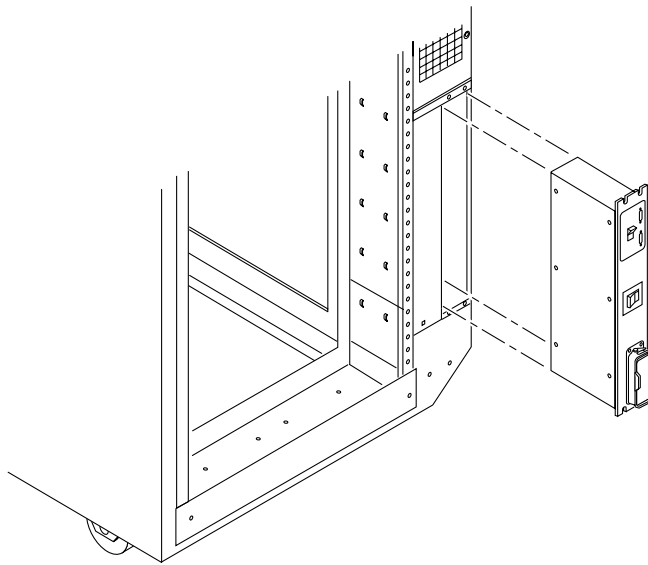

FIGURE 4-5 Removing and Replacing the Power Sequencer
5. **Remove the four screws that secure the sequencer to the chassis (FIGURE 4-5).**
1. **Tilt the power sequencer inward and seat the bottom in the chassis opening (FIGURE 4-5).**